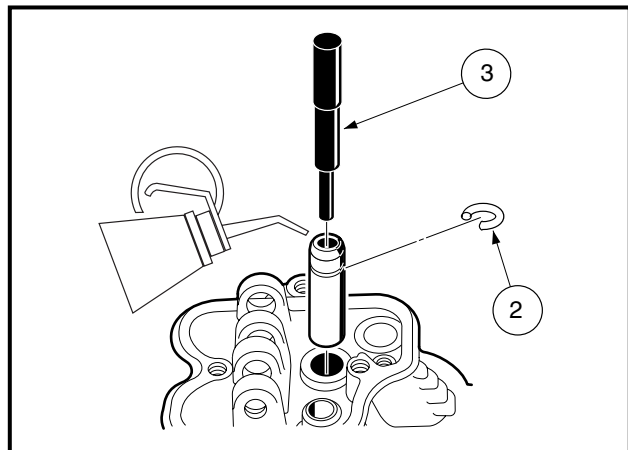

Figure 2-16 Valve Guide Installation
2. Install the snap ring (2) on the new valve guide (Figure 2-16, Page 2-10).
4. With the rocker arm side of the head facing up, drive the new valve guide into the head with the valve guide arbor (3) until the snap ring (2) just seats on the head (Figure 2-16, Page 2-10).